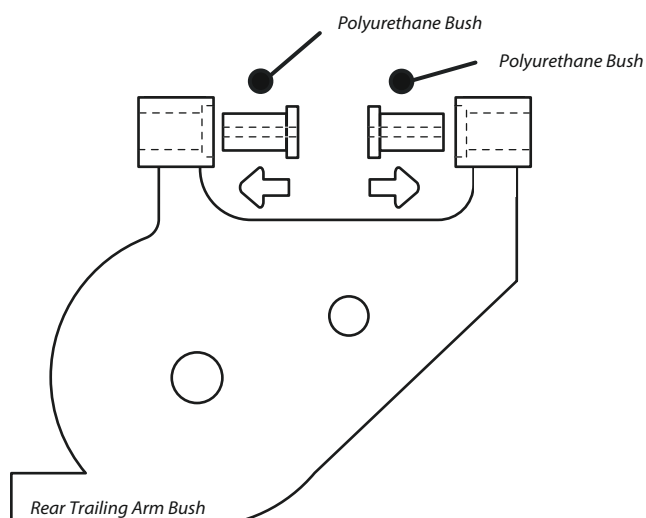

Figure 1 - Inserting the Polyurethane Bushes
*Note- When inserting the Polyurethane Bushes, ensure the orientation matches Figure 1, with the brims of the bushes facing each other inwards of the arm.*